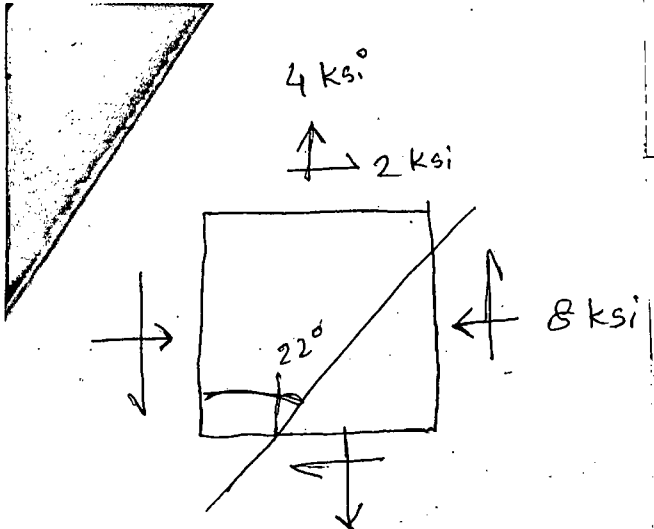

Fig: 7
8. Using Mohr's circle of stresses, for the element shown in Figure 7. (14)